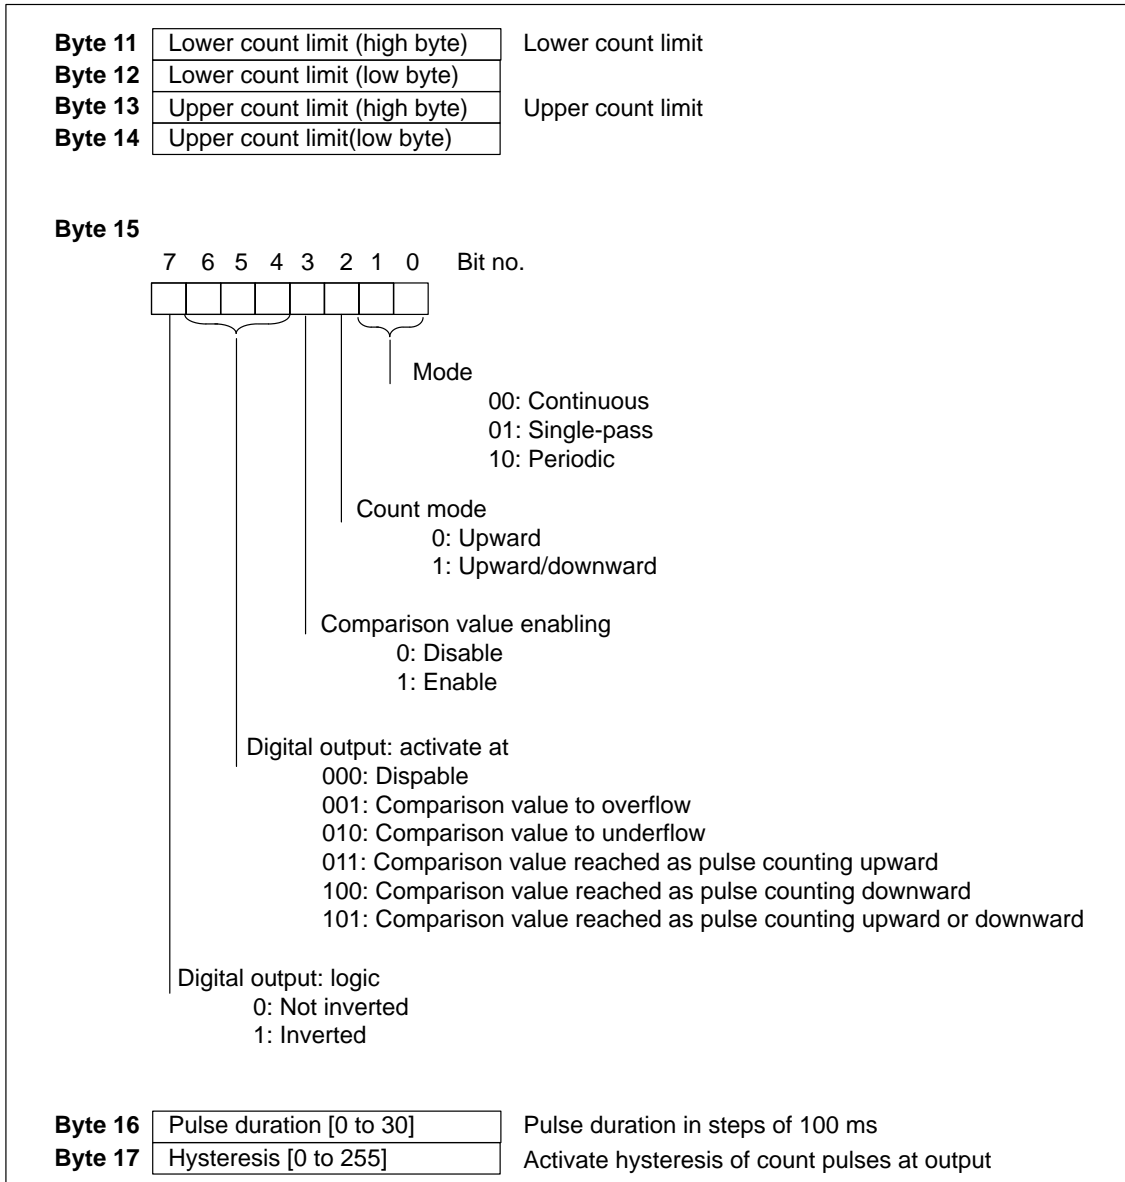

Figure C-12 1COUNT40kHz Counter Module – Purpose of Bytes 11 to 17 of Data Record 130
**Counter Module – Bytes 11 to 17**      The purpose of bytes 11 to 17 of data record 130 for the 1COUNT40kHz counter module indicated in Figure C-12.